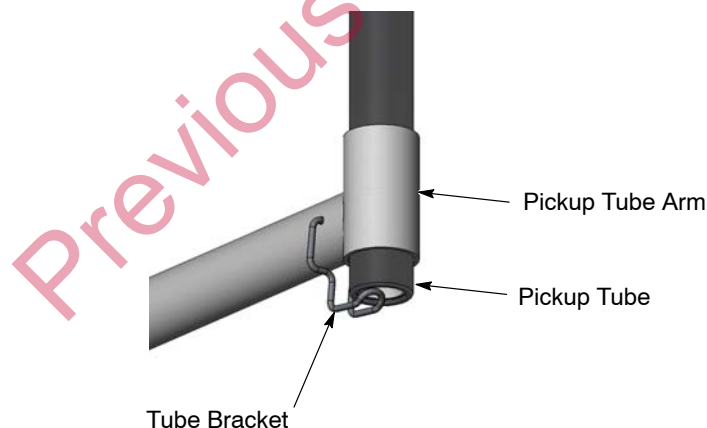

Figure 3-3 Pickup Tube Bracket Use
1. See Figure 3-3. Lift the pickup tube up and swing the tube bracket down and under the pickup tube end to hold it in place on the arm.